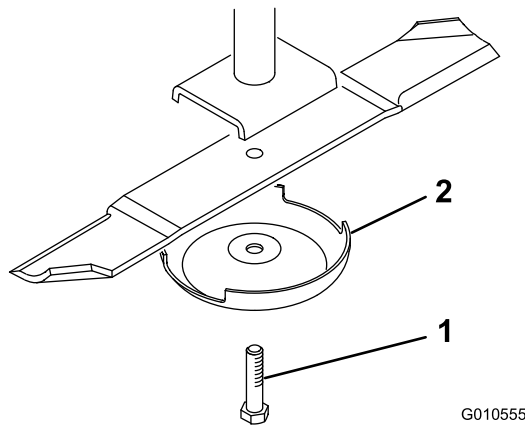

Figure 27
2. Grasp the end of the blade using a rag or thickly padded glove. Remove the blade bolt, anti-scalp cup, and blade from the spindle shaft (Figure 27).